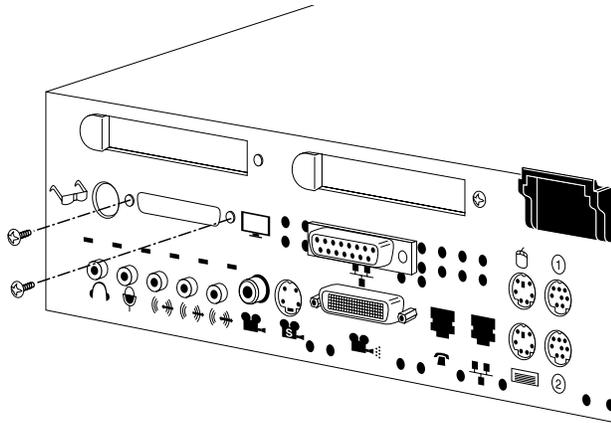

Figure 1-16 Removing the Exterior Screws For the Z Board
5. On the rear of the workstation, remove the two Phillips screws, as shown in Figure 1-16.